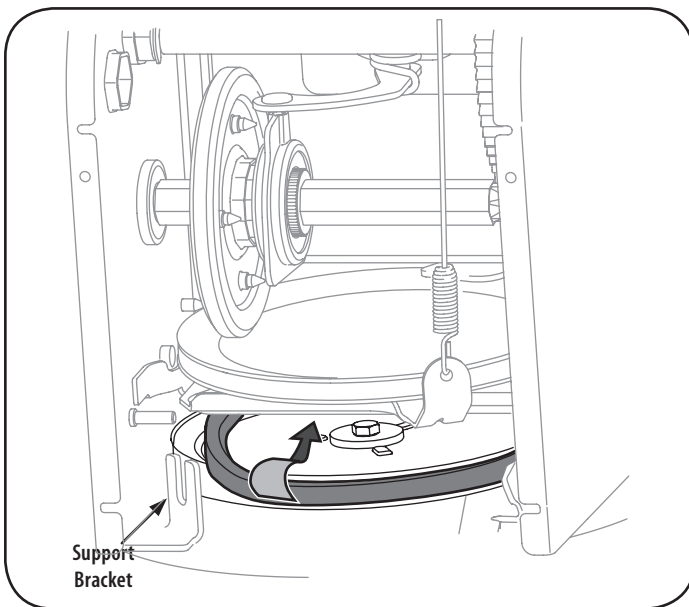

Figure 29
8. Remove the belt from around the auger pulley, and slip the belt between the support bracket and the auger pulley. See Figure 29.
NOTE: Do NOT forget to reinstall the shoulder screw and reconnect the spring to the frame after installing a replacement auger belt. See Figure 29 and Figure 29.